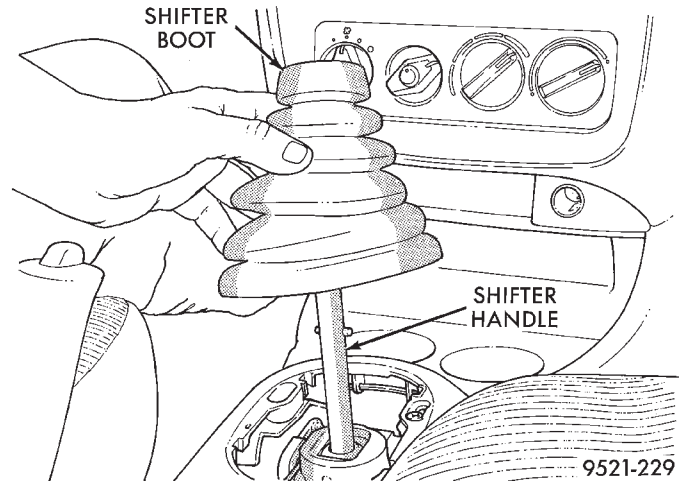

Fig. 131 Boot Removal
• Remove the shifter boot from the center console. Shifter boot is removed by squeezing the bezel together at the base of the shifter boot and pulling upward on the boot (Fig. 131).